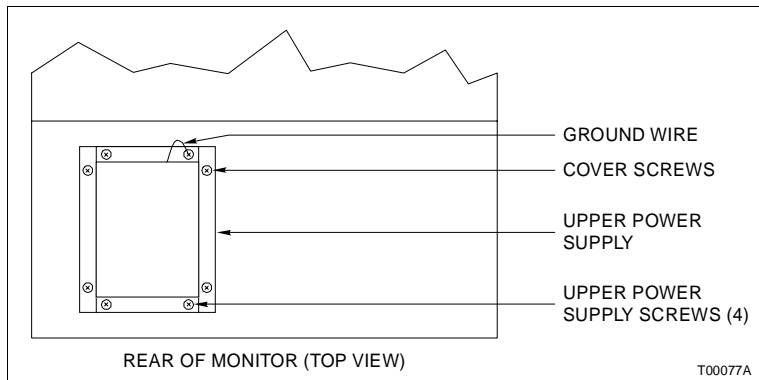

Figure PR60-2. Upper Power Supply
4. Use the Phillips head screwdriver to remove the four cover screws that hold the cover on the upper power supply (Fig. PR60-2).